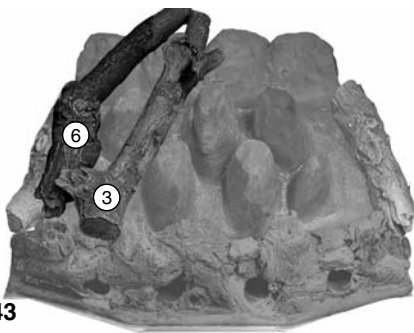

Fig. 43
5. Following Figs. 43 to 49, place the loose logs on to the fuel bed. It is important that the logs 'nest' together and sit on top of the fuel bed peaks.